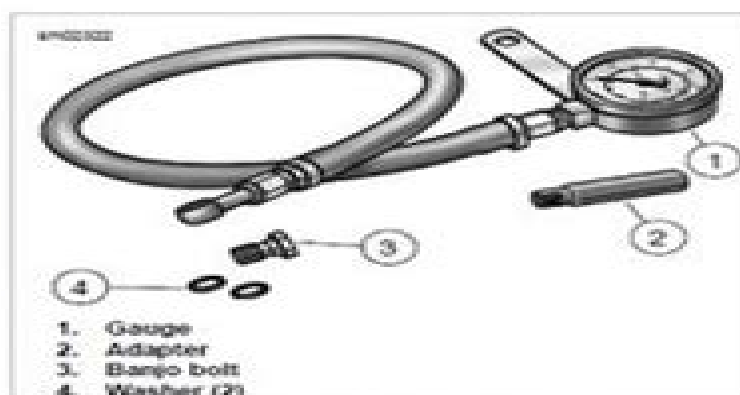

Figure 3-10. Oil Pressure Gauge Set
3. See Figure 3-10. Install OIL PRESSURE GAUGE SET (Part No. HD-96921-520).
- a. Install adapter (2) in oil pressure switch mounting hole. Tighten adapter until snug.
- b. Assemble banjo bolt (3), washer (4), oil pressure gauge (1) banjo fitting and second washer onto adapter and tighten until snug.